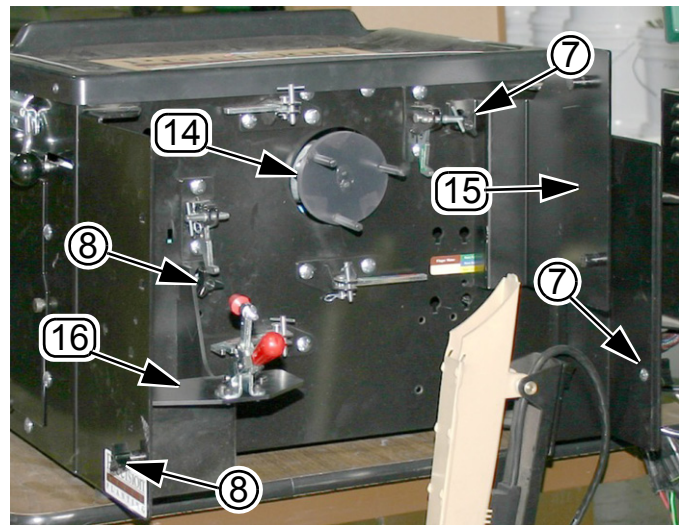

Figure 5
Refer to Figure 5
16. Mount the Air-Pro® meter on the locating pins of the brackets installed in Figure 5 and clamp in place.